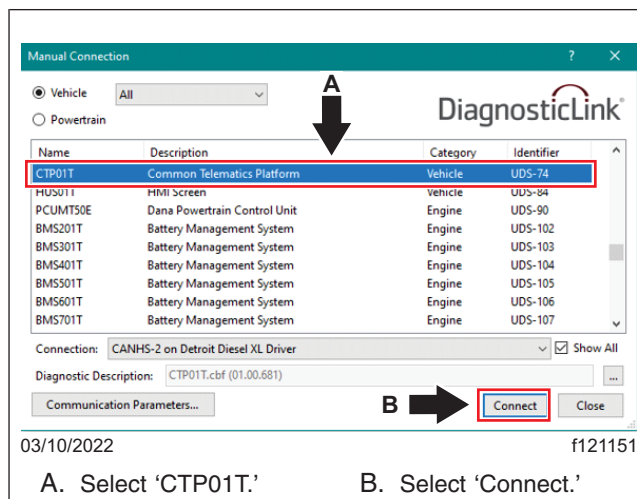
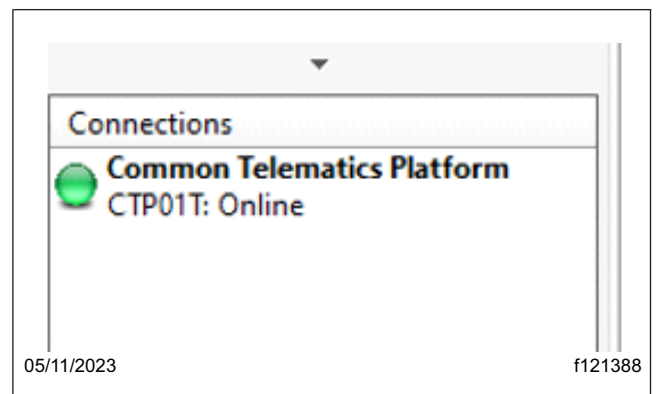

Fig. 7, Manual Connection Window
Fig. 8, CTP01T Connected
- In the 'Manual Connection' window that appears, select 'CTP01T,' then select the 'Connect' button. See Fig. 7. Wait until the CTP01T connection turns green, as shown in Fig. 8.